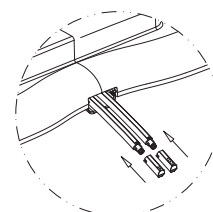

Figure 2
2. Hold the tube and insert the new nozzle following the arrow direction (Figure 2). Make sure to install the front wash and rear wash nozzles into their correct tubes.